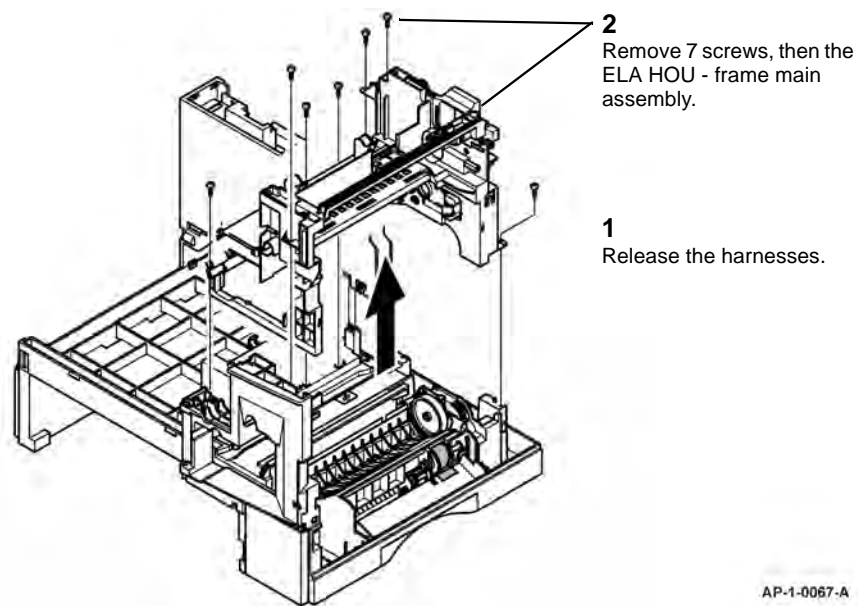

Figure 3 ELA HOU - frame main assembly removal
11. Remove the ELA HOU main frame assembly, Figure 3.